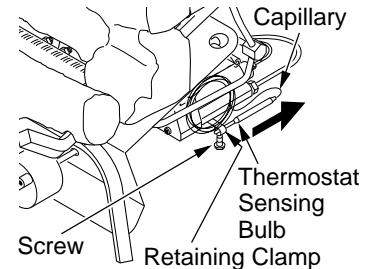

Figure 42 - Removing Thermostat Sensing Bulb
2. With 5/16" hex driver or socket, loosen the thermostat screw. Carefully slide the thermostat sensing bulb out of the retaining clamp (see Figure 42).